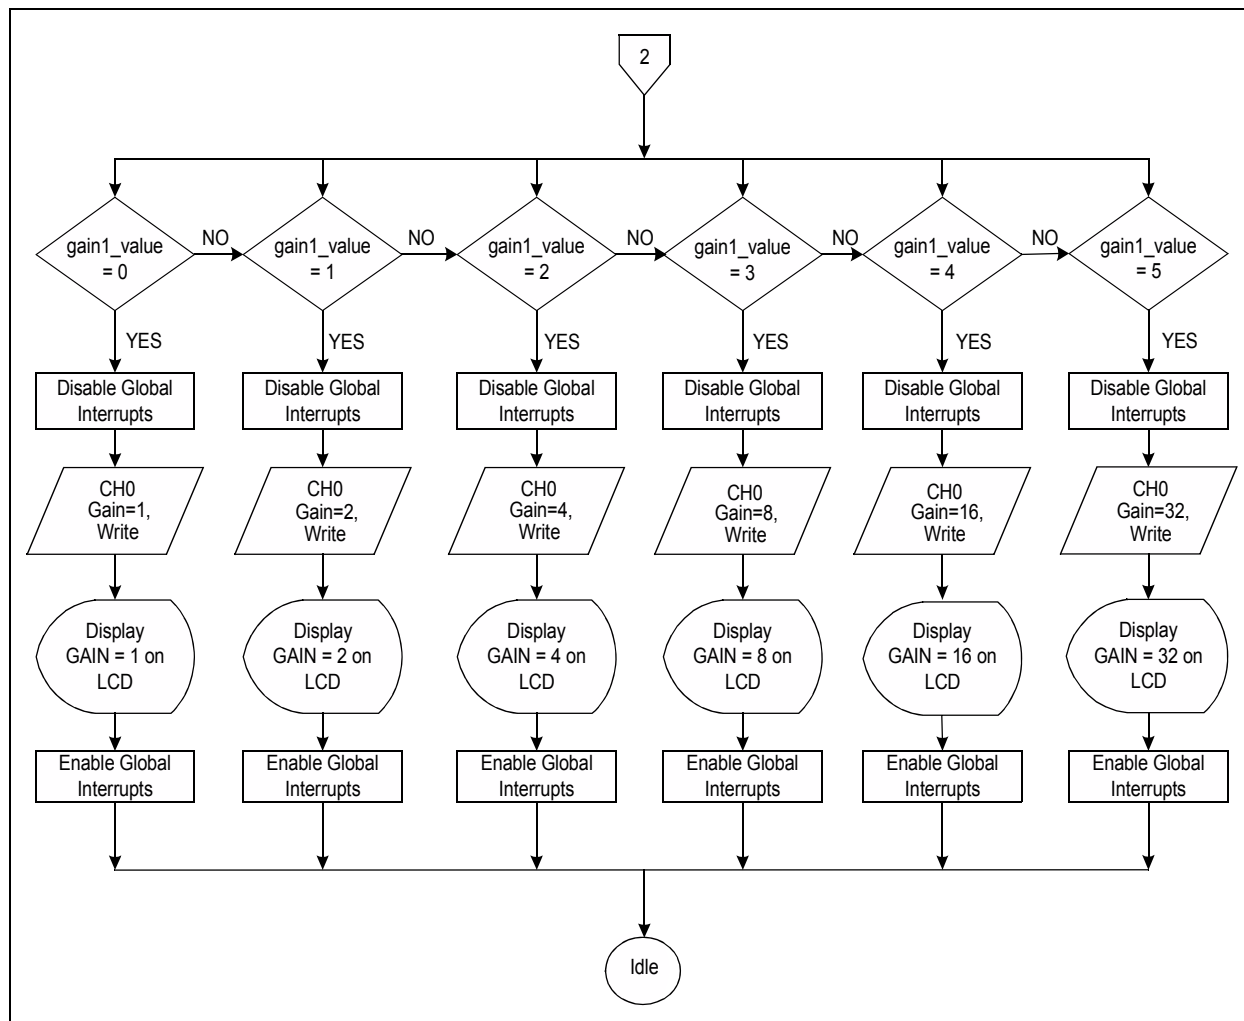

FIGURE 4-3: Key Press Routine to Configure Gain of Channel CH0.
- Channel CH0 Gain switching routines (see Figure 4-3)